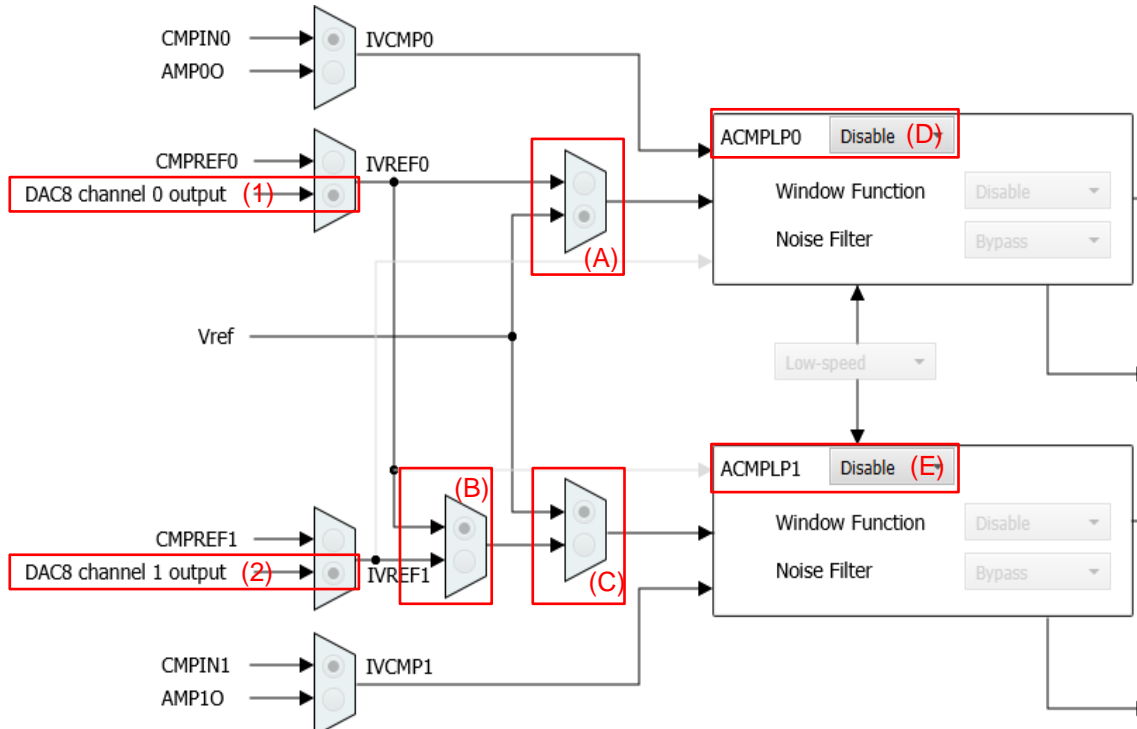

Figure 3-5 ACMLP1 example setting
- “DAC8 channel 0 output” is selected as ACMLP0 input (refer to figure3-5 (1))
- When switcher (A) selects Vref (refer to figure3-5 (A))
- When ACMLP0 is disabled (refer to figure3-5 (D))
- When switcher (B) selects IVREF0, switcher (C) selects Vref (refer to figure3-5 (B) and (C)) and ACMLP1 is enabled (figure3-5 (E) selects “Enable”)
- "DAC8 channel 1 output" is selected as ACMPLP1 input (refer to figure3-5 (2))
- When switcher (B) selects IVREF0 (refer to figure3-5 (B))
- When switcher (C) selects Vref (refer to figure3-5 (C))
- When ACMPLP1 is disabled (refer to figure3-5 (E))